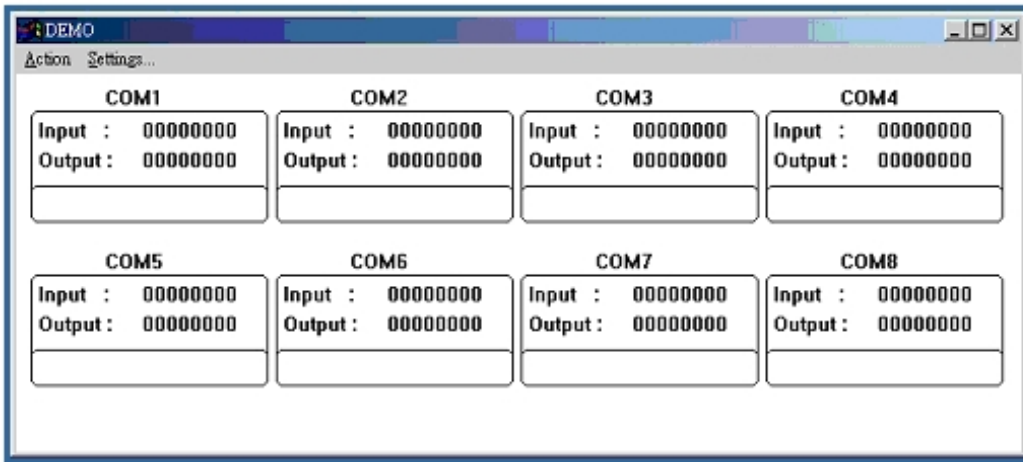

Fig.5
**Step1.**Run the “DEMO.EXE” utility (See the Figure 5).